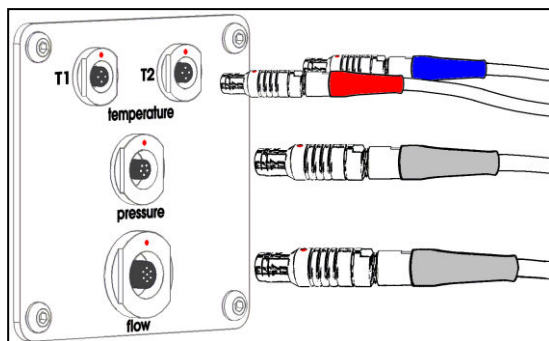

Figure 12: Connecting the sensors
- Make sure to connect the sensor connector with the red dot facing upwards (figure 12).